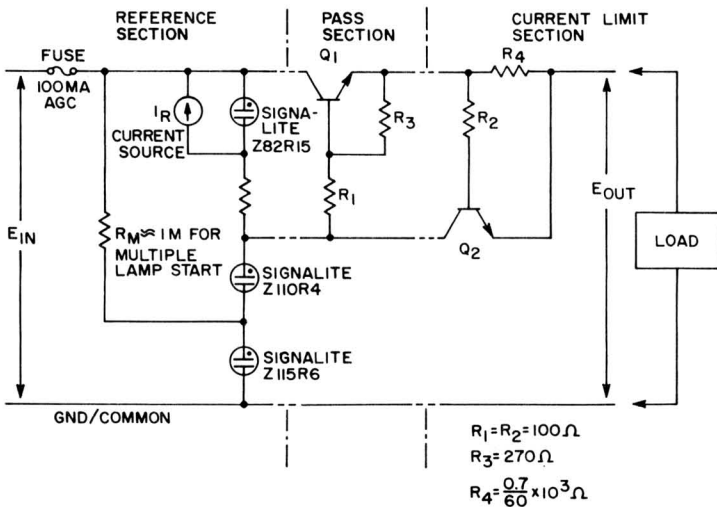

Figure 1
Design considerations for such a power supply can be segmented into four basic parts (1) current and voltage input range; (2) the reference element and its current source, etc., (3) the pass transistor or darlington pair and its associated circuit components, and (4) the current limit transistor and its associated circuit components. See Figure 1.